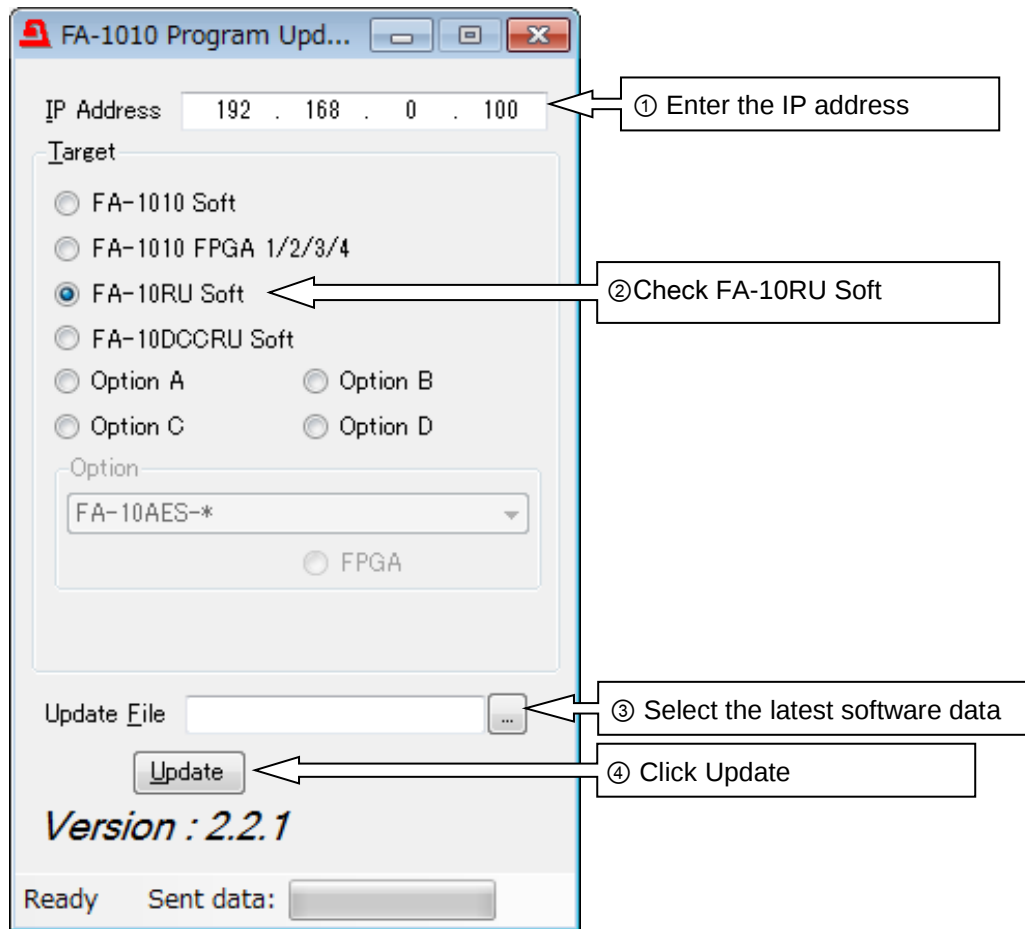

Fig. 17 FA-1010 Program Updater dialog
3. Enter the IP address (default IP address: 192.168.0.100)(Fig. 17 ①).
4. Check **[FA-10RU Soft]** under **[Target]** (Fig. 17 ②).
5. Select the latest version software under **[Update File]** (Fig. 17 ③).
6. Click **[Update]** to start updating (Fig. 17 ④).